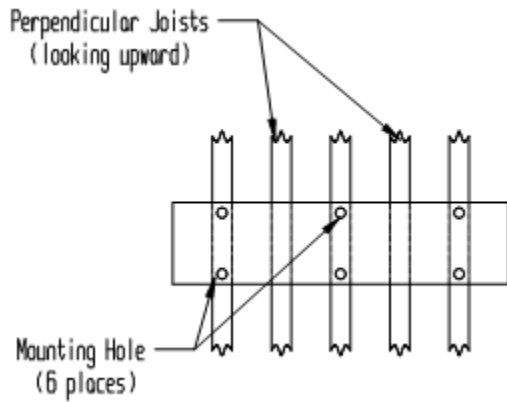
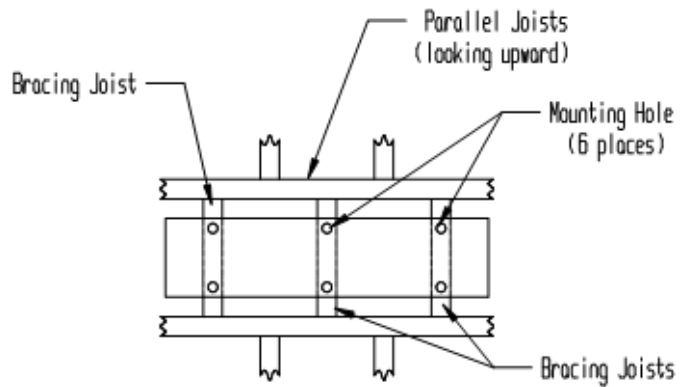
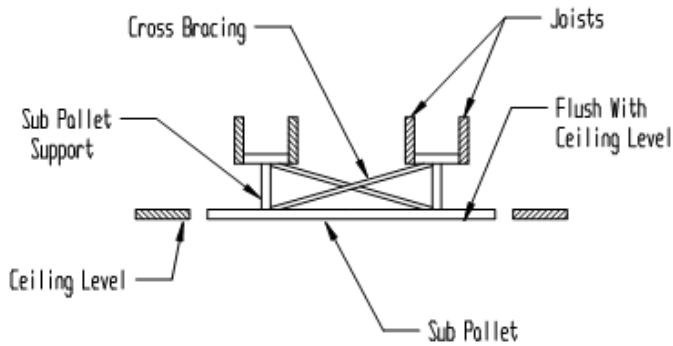
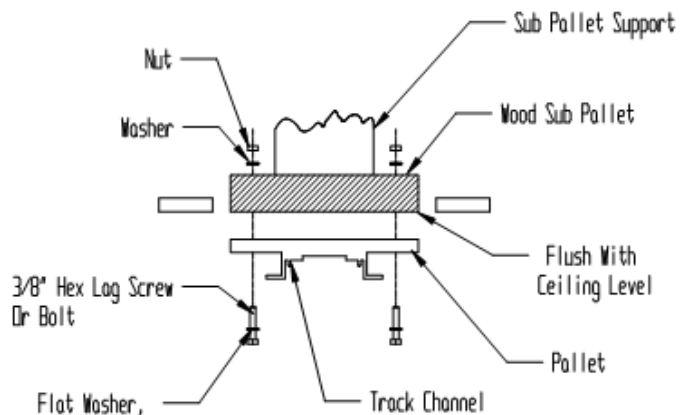

Figure 22. Mounting Pallet Perpendicular to Wood Joist
Figure 23. Mounting Pallet Parallel to Wood Joist
Figure 24. Mounting Pallet to a Suspended Ceiling
Figure 25. Suspended Ceiling Wood Bracing Detail (End View)
- A structural ceiling mount meeting the specifications of the architectural plans, or suggested structural mounting shown in “Figure 22. Mounting Pallet Perpendicular to Wood Joist”, “Figure 23. Mounting Pallet Parallel to Wood Joist”, “Figure 24. Mounting Pallet to a Suspended Ceiling”, and “Figure 25. Suspended Ceiling Wood Bracing Detail (End View)”. The installation must be capable of supporting a weight of at least 225 pounds and an off center load of 565 ft-lbs.
- Check the length of the ceiling rod supplied (located in the carton with the light head and arm). The rod lengths available for the Chuttle Track are 16” long for a mounting height of 7 feet 6 inches to 8 feet 6 inches. A 25” long rod is available for a mounting height of 8 feet 7 inches to 9 feet 6 inches. If a problem occurs, contact our customer service department at (818) 838-3025.